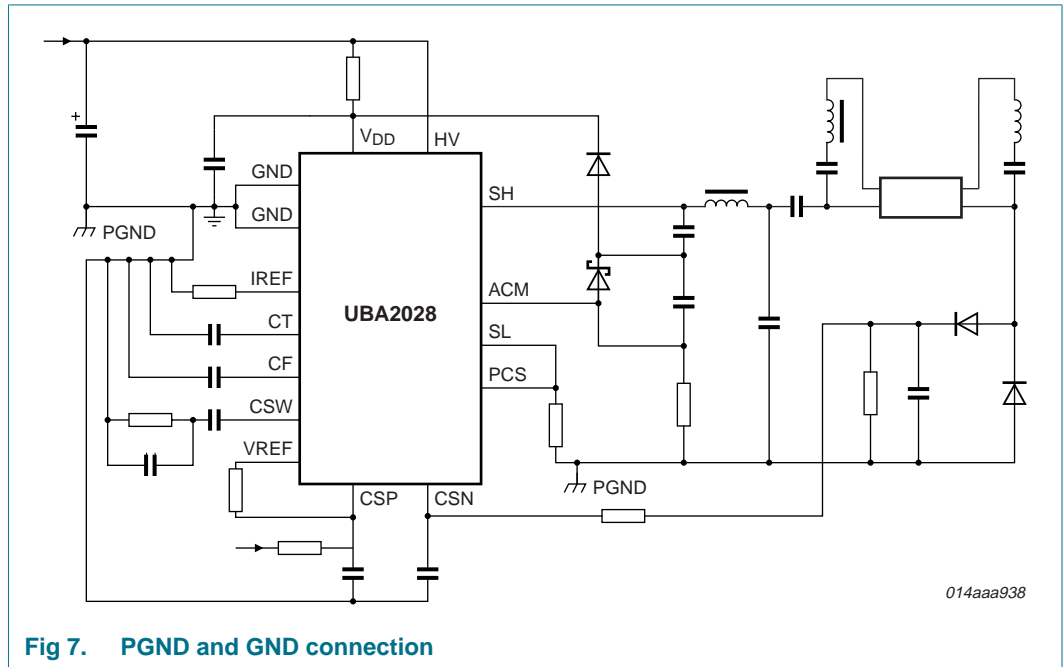

Fig 7. PGND and GND connection
The internal oscillator is a Voltage Controlled Oscillator (VCO) circuit which generates a sawtooth waveform between the  $V_{o(osc)max}$  level and 0 V. The frequency of the sawtooth is determined by capacitor  $C_{CF}$ , resistor  $R_{IREF}$ , and the voltage at pin CSW. The minimum and maximum switching frequencies are determined by  $R_{IREF}$  and  $C_{CF}$ ; their ratio is internally fixed. The sawtooth frequency is twice the half-bridge frequency. The UBA2028 brings the transistors TR1 and TR2 into conduction alternately with a duty cycle of approximately 50 %. An overview of the oscillator signal and driver signals is illustrated in Figure 7. The oscillator starts oscillating at  $f_{max}$ . During the first switching cycle the Low-Side (LS) transistor (TR2) is switched on. The first conducting time is made extra long to enable the bootstrap capacitor to charge.
The non-overlap time is realized with an adaptive non-overlap timing circuit (ANT). By using an adaptive non-overlap circuit, the application can determine the duration of the non-overlap time and make it optimum for each frequency; see Figure 7. The non-overlap time is determined by the slope of the half-bridge voltage, and is detected by the signal across resistor R15 see Figure 8 (R6 in Figure 9) which is connected directly to pin ACM. The minimum non-overlap time is internally fixed. The maximum non-overlap time is internally fixed at approximately 25 % of the bridge period time. An internal filter of 30 ns is included at the ACM pin to increase the noise immunity.
The connection of PGND and GND is shown in Figure 7